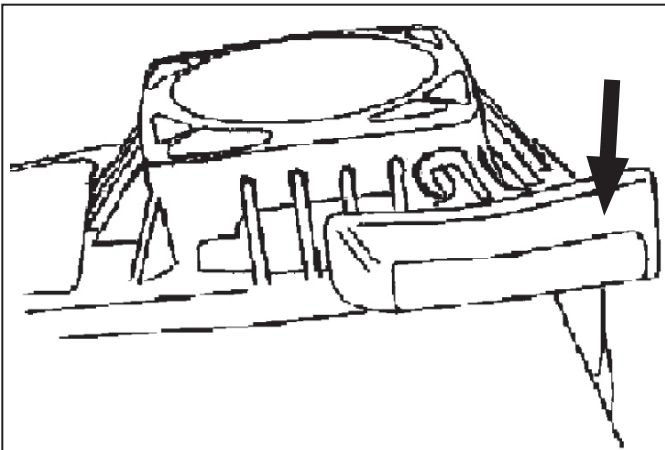

Fig. 9 Starter Cord Handle Location
5. Grasp starter cord handle. See Fig. 9